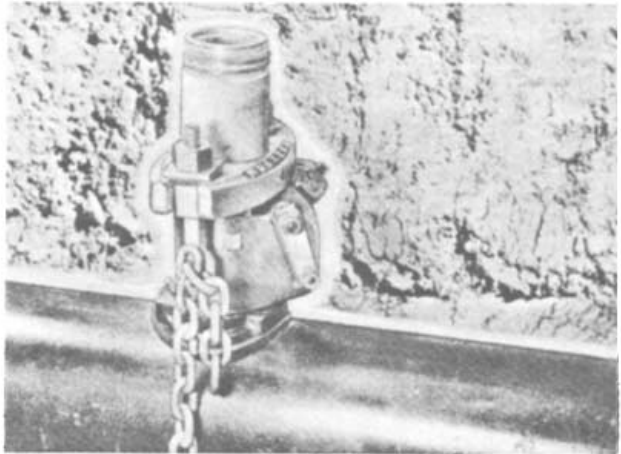

FIGURE 3
9. Attach chain to chain hooks. Hook chain into one hook and bring under the pipe and hook to nearest link. FIGURE 3.